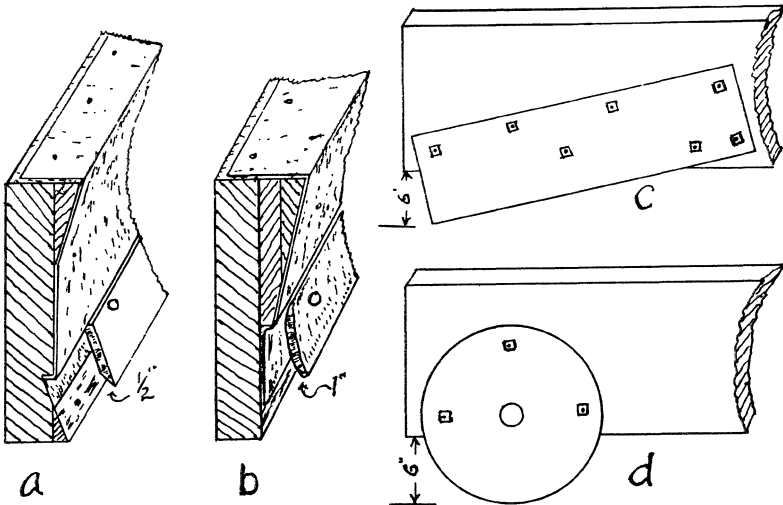

Fig. 4.—Detail drawings of how the blade and stinger are put on.
**Step 6.** Place the stinger in proper position, as shown in Figs. 3 and 4, mark and bore the holes. The stinger should extend about 6 inches below the 2"x12" plank. A rolling coultter bolted on with three bolts is preferable. However, a thin flat piece of steel three to four feet long and eight inches to ten inches wide, such as an old fresno blade, serves very well. (See "c," Fig. 4.) Be sure the metal is less than  $\frac{1}{4}$  inch thick or it will cause trouble. Place the grader blade in proper position, mark and bore the holes. The edge of the blade should extend about  $\frac{1}{2}$  inch below the 2"x12" plank. (See "a," Fig. 4.)
**Step 8-A.** The blade is made from a piece of stalk-cutter steel. This steel is  $3\frac{1}{2}$  inches wide and  $\frac{1}{4}$  inch thick with one edge beveled and is shown in the detailed drawing, Figure 4-a. Place this blade flat on the lower edge of the moldboard, letting it project  $\frac{1}{2}$  inch below the 2"x12" plank. Mark along the upper edge of the blade the full length. Then cut  $\frac{1}{4}$  inch deep along this mark with a chisel or power saw, if possible. Next, bevel a piece of door stop so that it is  $\frac{3}{4}$  of an inch on one edge and zero
inch thick on the other. Nail this along the bottom edge of the moldboard, then with a chisel placed flat on this beveled piece cut the wedge-shaped groove as shown in Fig. 4-a. This will form a flat surface for the blade to fit against and gives it a tilt outward at the bottom forming the curve on the lower edge of the moldboard. After the groove is cut, place the blade in position, mark and bore the holes. The sheet iron facing should be put on before fastening the blade on permanently.
**Step 8-B.** Where an old grader blade is used instead of a blade made from the stalk-cutter steel, it will be necessary to place the blade on the lower side of the moldboard letting it extend about one inch below the 2"x12" moldboard, then mark along its upper edge and mark the holes to be bored at the same time. Then nail a 1"x8" board to the 2"x12" moldboard above the mark. It will be necessary to bevel the lower side of the 1"x8" so it fits flush with the grader blade, then by nailing the beveled piece of the 1"x4" at the top, the curved surface of the moldboard will be formed and ready to place the sheet iron surface on. Figure 4-b shows a detailed cross section of this. The old grader blade used must not be warped and should be of a light maintainer type. A heavy blade does not work so well and if the surface is warped at one end more than the other, it causes the terracer to do unsatisfactory work. The light blade made from the stalk-cutter steel is preferable in most cases. When there is a lot of rock the old grader blade may be best for it will withstand more abuse than the lighter blade.